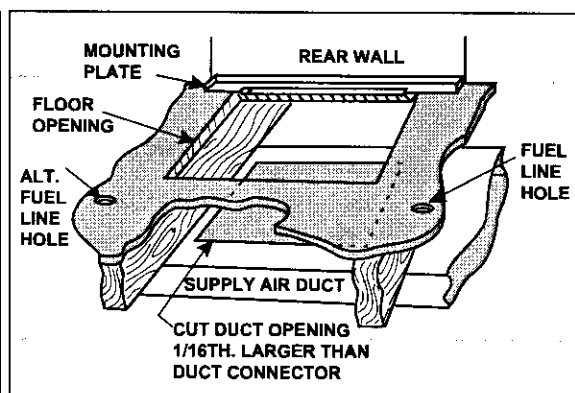

Figure 8. Mounting Plate
- b. Place mounting plate (supplied within duct connector) at rear of the floor opening (See Figure 8).